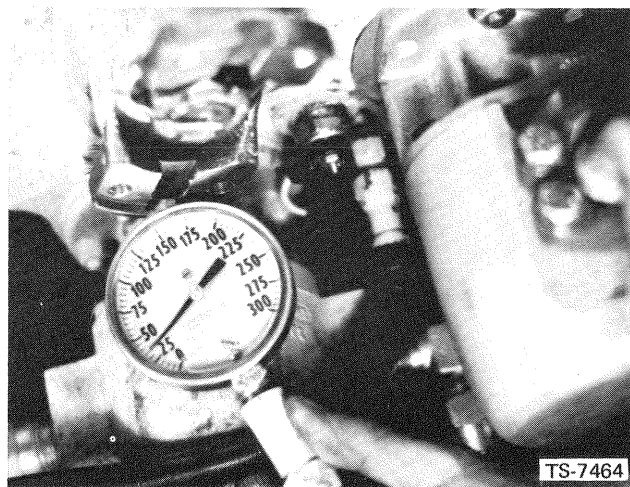

Fig. 5-2 Check Converter Out Pressure
2. Install a gauge at the converter OUT pressure port located below the sender unit on the rear of the converter. Fig. 5-2